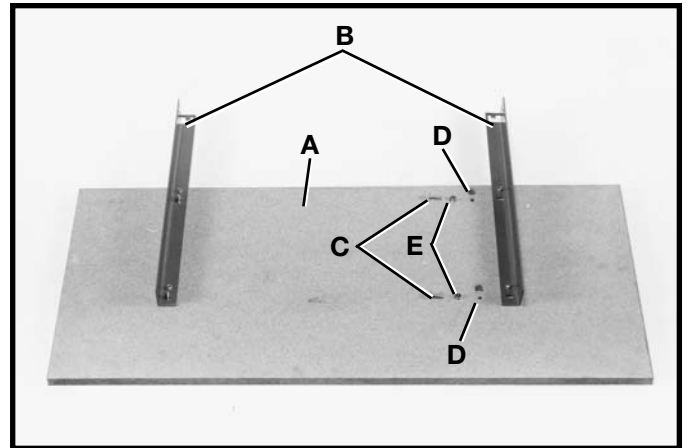

Fig. 16
1. Place front table board (A) Fig. 16, on a stable surface with counterbored holes facing down, as shown.
2. Fasten left and right table supports (B) Fig. 16, to bottom of front table board (A) as shown, by inserting four 1/4-20 x 1" long truss head screws (C) up through counterbored holes (D) in table board (A) and table supports (B). Secure in place using four flanged hex nuts (E). Do not completely tighten nuts at this time.